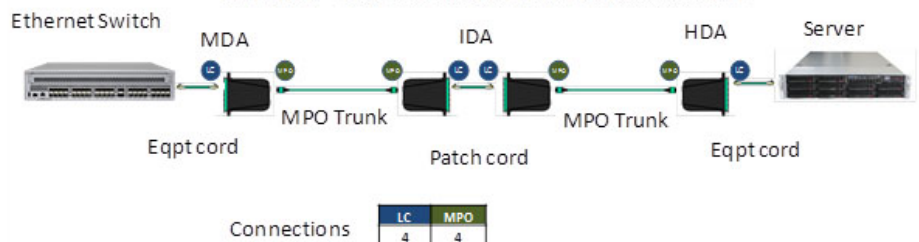

Figure 10. Example data centre topologies
Suppose you were planning the implementation of new data centre services for the topologies shown in Figure 10. The applications that must be supported on day one include 10 Gb Ethernet and 8G Fibre Channel (FC). The data centre has been organized into manageable data halls within the data centre. Will there be issues supporting the link lengths required by your design?